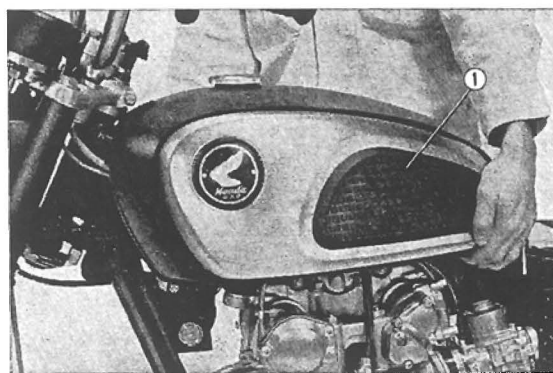

Fig. 4.33 Installing the fuel tank
- ① Side cover ② 6×8 mm hex bolt
③ Full tank
3. Fit the front and rear rubber cushions to the frame body. The front rubber cushion should be inserted by pushing the fuel tank from the rear. Install the fuel tank rear bracket on the rear cushion. (Fig. 4.33)